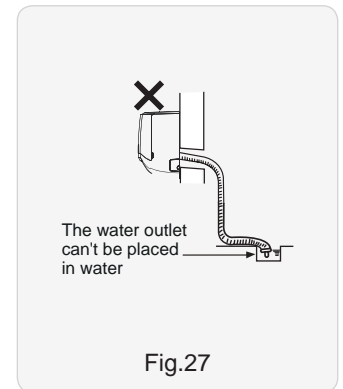

Fig.27
- (3) The water outlet cant be placed in water in order to drain smoothly. (As show in Fig.27)